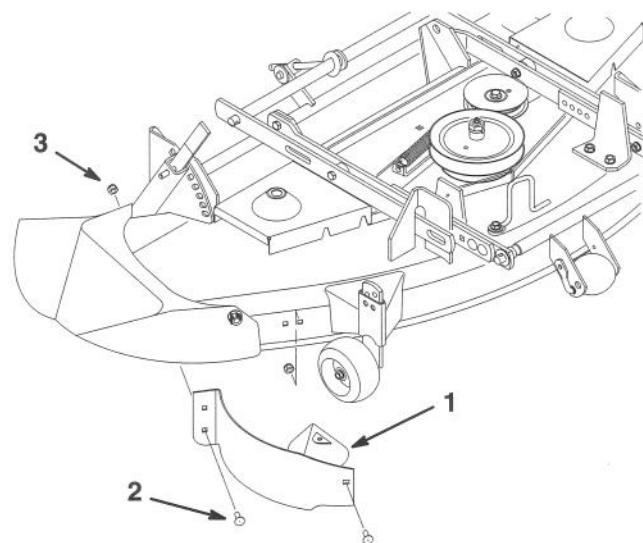

Figure 35
2. Remove the locknut and bolt from the mower (Fig. 35). Slide the baffle into the discharge opening and into the mower so the pin goes through the baffle.
3. Secure with previously removed 5/16–5/8" (16 mm) bolts and 5/16" locknuts (Fig. 35).